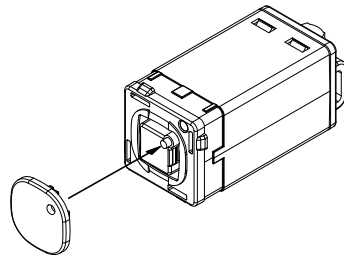

Fig 1: Installing Button to unit
- Clip the button on to the HNS020RB. Ensure that the button is oriented so that the LED light pipe is aligned with the hole in the button, before attaching it to the wall plate. Refer to Figure 1 and 2 below.